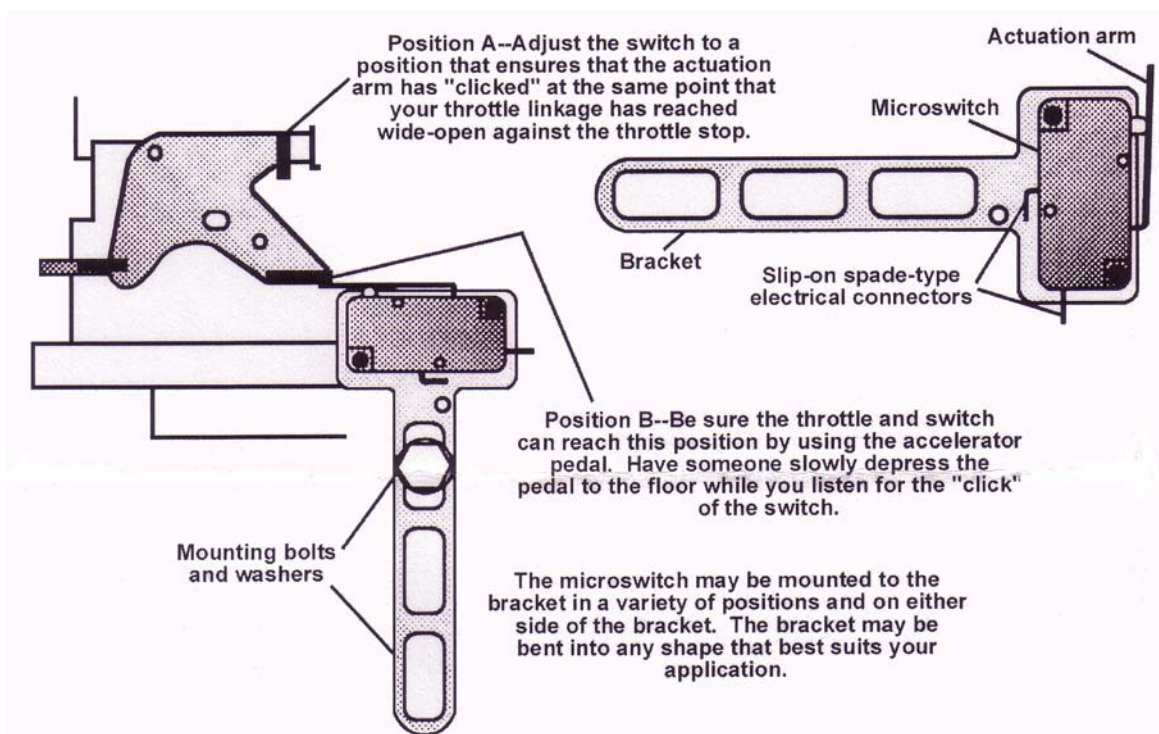

FIG. 10
- 2) Install the throttle micro switch (17) as follows: Hint, the micro-switch may be mounted to the bracket in a variety of positions and on either side of the bracket. The bracket may be bent to suit the application. **WARNING! Binding or dragging of the throttle linkage will create a potentially dangerous stuck-throttle condition. Ensure that the micro-switch does not interfere with the normal operation of the throttle linkage operation.**
- b. Adjust the micro-switch to trigger at wide-open throttle by adjusting the micro-switches position to ensure the actuation of the micro-switch "clicks" at the same point the throttle linkage reaches wide-open throttle against the throttle stop (figure 10, position A).
- c. Ensure that the throttle and switch can reach the activation position, as shown in figure 10, position B, by using the accelerator pedal. Have an assistant slowly press the pedal to the floor while you listen for the "Click" of the micro-switch.
- 3) Install the arming switch (18) in the vehicle interior, within easy reach from the drives seat. This switch will put power to the entire system. **CAUTION!** Never activate your nitrous system below 3000 RPMS as doing so could damage your engine.
- 4) Install the relay (19) and the relay harness (20) in the engine compartment near the battery.